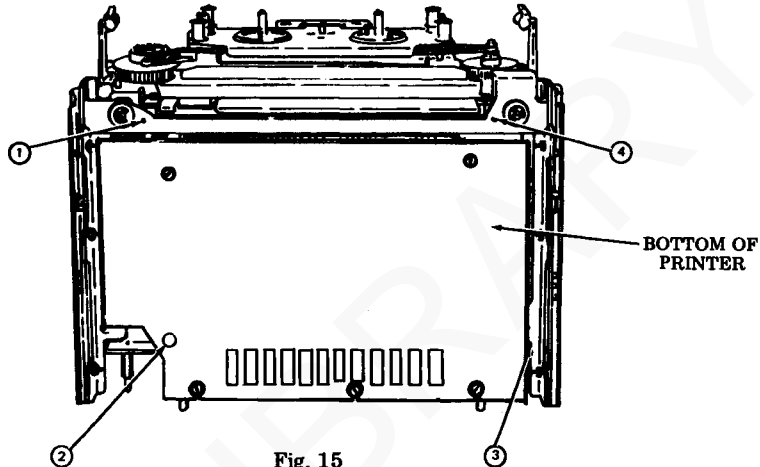

Fig. 15
- Step 2.** Position printer on its back. Immobilize unit vibration mounts by tightening the four immobilizing screws. See Fig. 15.